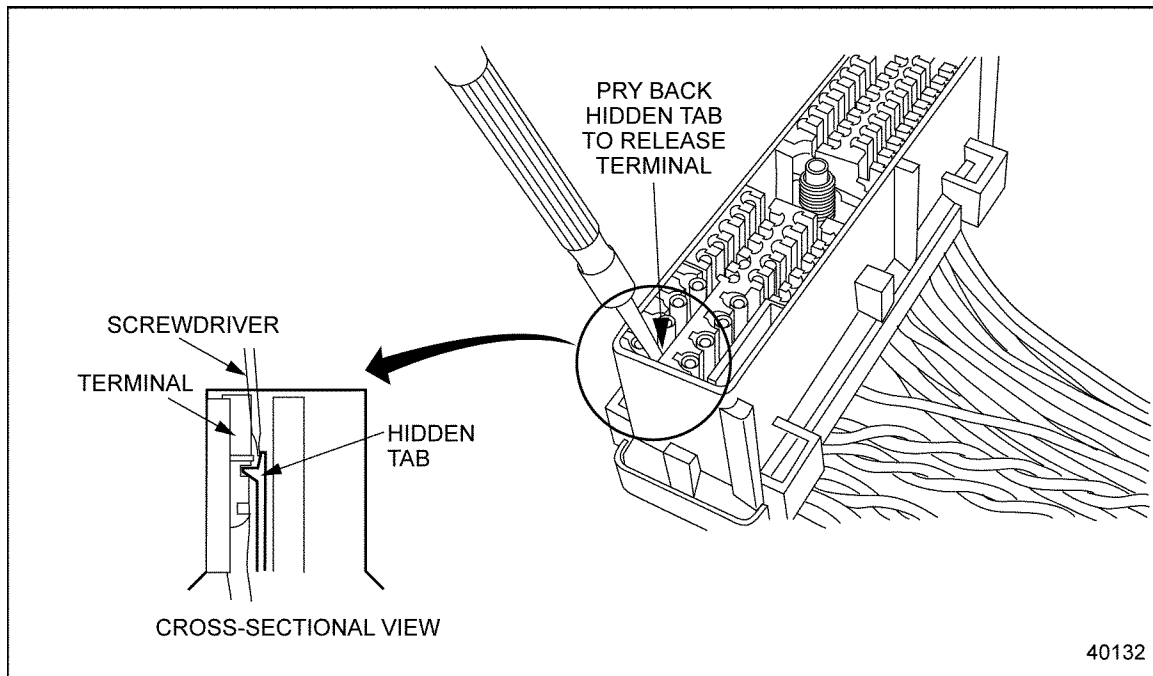

Figure 3-19 Removing the Terminal
- Use the screwdriver to gently pry back the tab holding the terminal you wish to remove (see Figure 3-19).